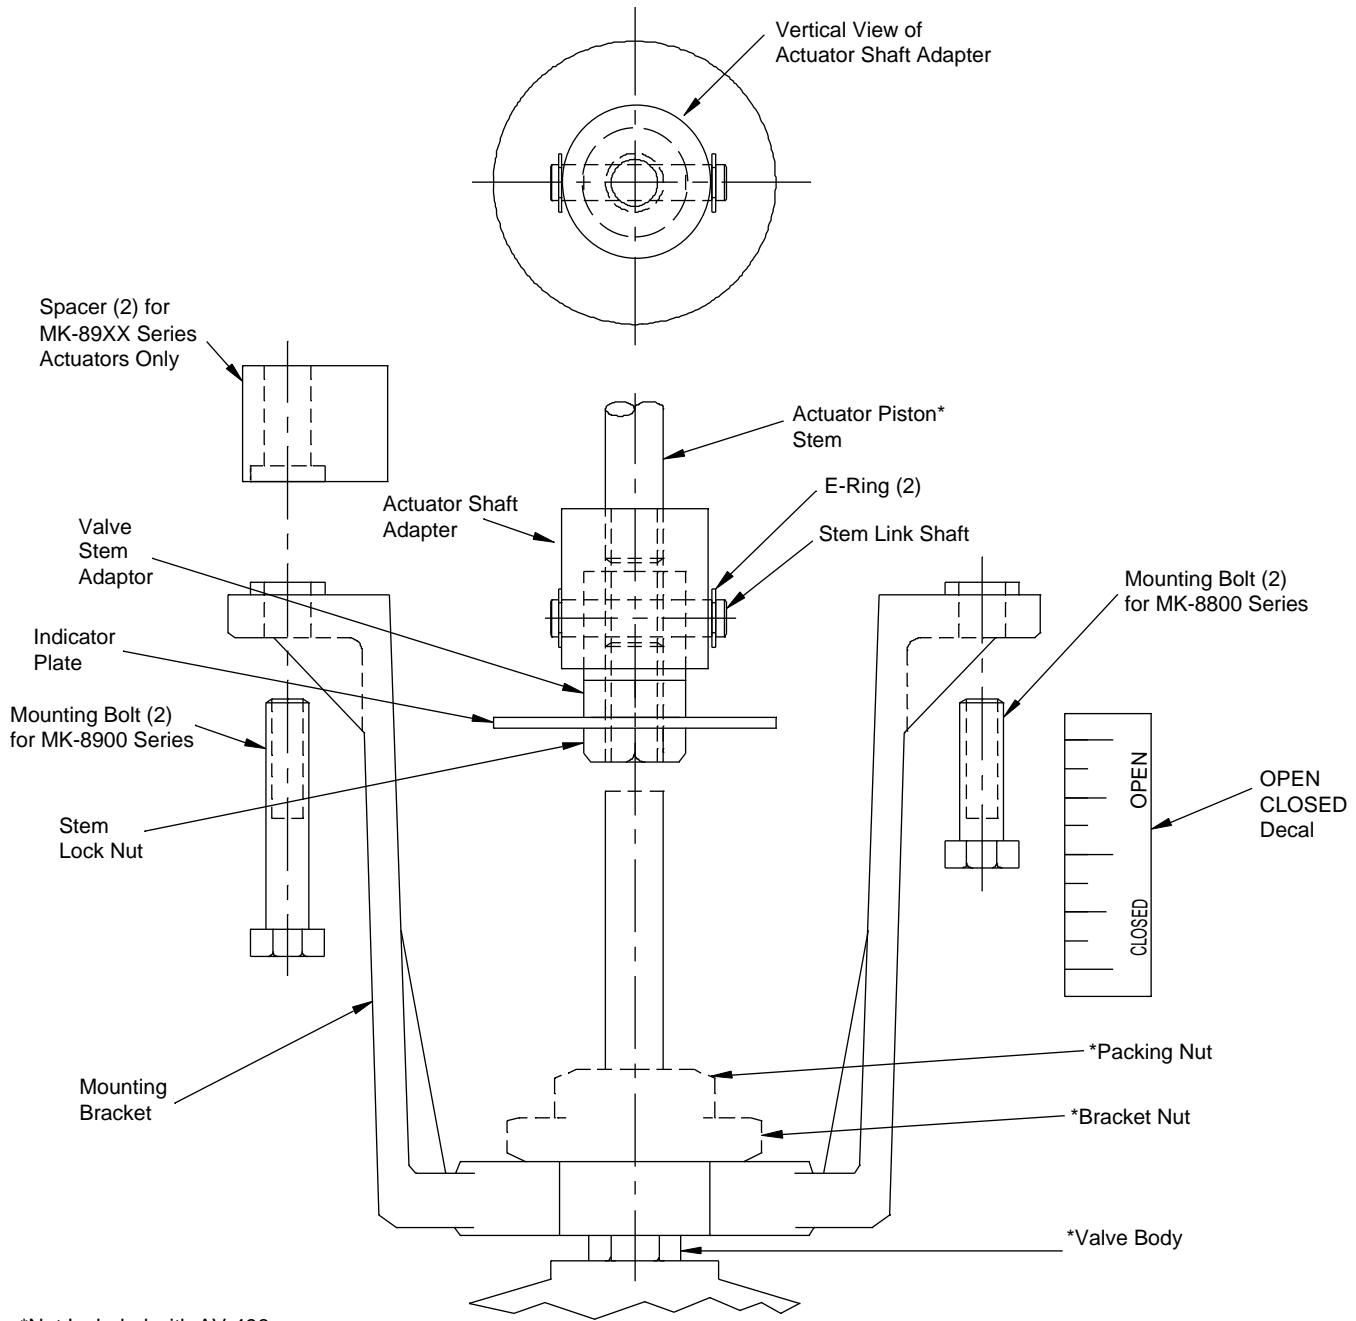

Figure-1 AV-496 Valve Linkage Kit Components.
2. Remove bracket nut from valve body. Refer to Figure-1.
8. Secure the valve stem adapter, the AK-42309-500 spring arm (if required), and the indicator plate into place with the stem lock nut. Refer to Figure-1.
11. Using the appropriate bolts attach the selected actuator to the mounting bracket. Refer to Table-1. If MK-89XX series actuator is selected, install the spacers before attaching the actuator to the bracket. Refer to Figure-1.
16. Align the top indication marker of the OPEN/CLOSE decal with the indicator plate. Affix the OPEN/CLOSE decal to the mounting bracket. Refer to Figure-1.
2. Remove the bracket nut from valve body. Refer to Figure-1.
11. Using the appropriate bolts attach the selected actuator to the mounting bracket. Refer to Table-1. If MK-89XX series actuator is selected install the spacers before attaching the actuator to the bracket. Refer to Figure-1.
18. Align the top indication marker of the OPEN/CLOSE decal with the indicator plate. Affix the OPEN/CLOSE decal to the mounting bracket. Refer to Figure-1.